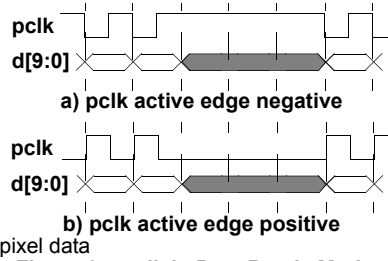

Figure 34. pclk in Data Ready Mode
- In data ready mode, (the *PixClkMode* bit of *DVBUSCONFIG1* register is set to a logic 1), the pixel clock output pin **pclk** will produce a pulse with a specified level every time valid pixel data appears on the digital video bus **d[9:0]** as shown in Figure 34.